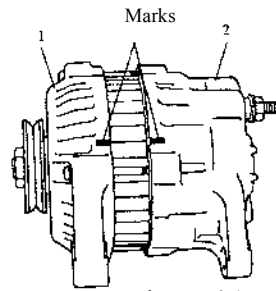

Figure 6.1-5
- (1) For convenient assembling, make matching marks according to Figure 6.1-5 before splitting the front and rear casings.